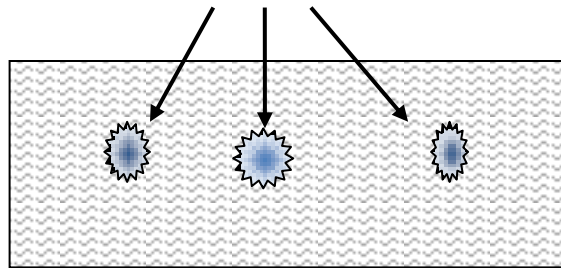

Figure 1: Standard twist drill should not be used to drill holes in sheet metal.
Note: See Figure 1, (omitted here) for details on chain connector links that are suited or **not** suited for each grade of chain. All lifting equipment (chains, steel cables, lifting hooks – see list) must be clearly marked with safe working limit and be in safe working order.
Drilling holes in sheet metal is difficult, and the results may be damaged work. This is especially true with standard twist drills over 12.7 mm (½ in) in diameter. The standard twist drill has a tendency to "hook" into the thin metal. This "hooking" action is caused by the rake angle created by the helix of the flutes and the drill point. A clean, round hole is not produced by the standard twist drill (See Figure 1).
2. By referring to Figure 1, you can understand how “the rake angle created by the helix of the flutes and the drill point” creates the “hooking” action.
Passage 3 is an evaluation of a drilling operation and a type of problem. It directs you to Figure 1 to show you the problem. The passage describes the problem, looks at the cause and offers a solution.